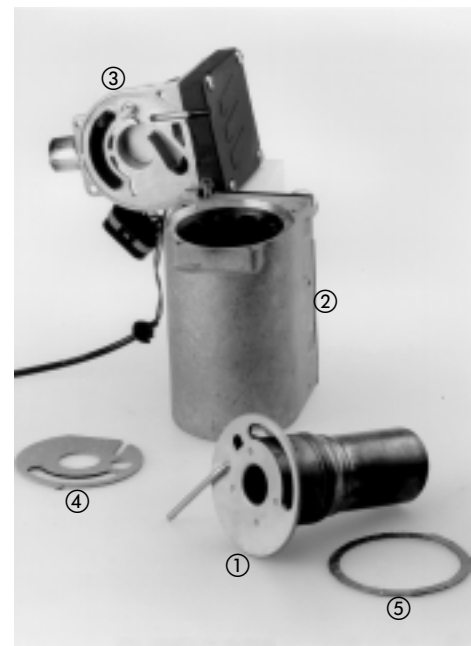

Fig. 7
① Combustion air blower    ③ 14-pin plug
② Electric motor        ④ Seal
**Removing the combustion chamber** (see Fig. 7)